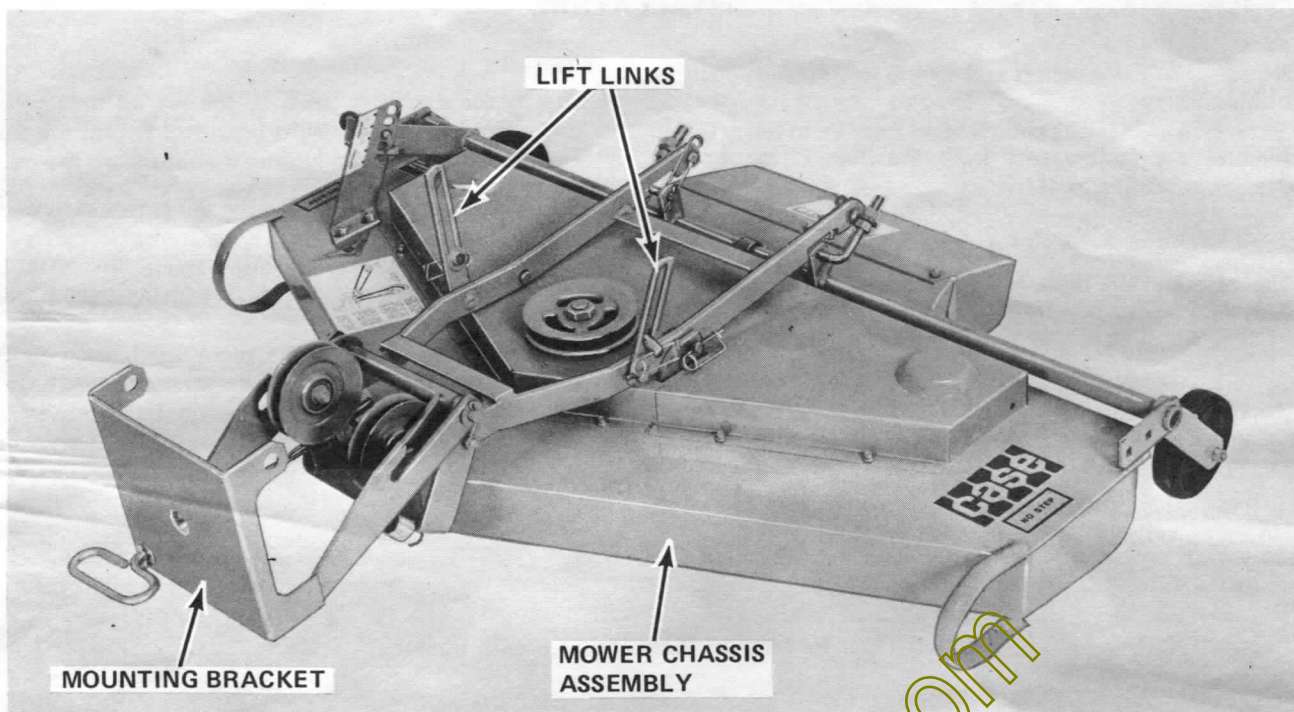

FIGURE 11 MODEL K-45 ROTARY MOWER - ASSEMBLED
3. Use cotter pins to fasten the lift links to the mounting bracket. See Figure 11.
4. Attach the discharge chute to the rear of the mower deck with the five (5) bolts provided. Attach the discharge chute before mounting the mower to the tractor.
NOTE: Do not assemble the mounting bracket to the lawn mower chassis as shown in Figure 11. It is easier to first install the mounting bracket on the tractor.